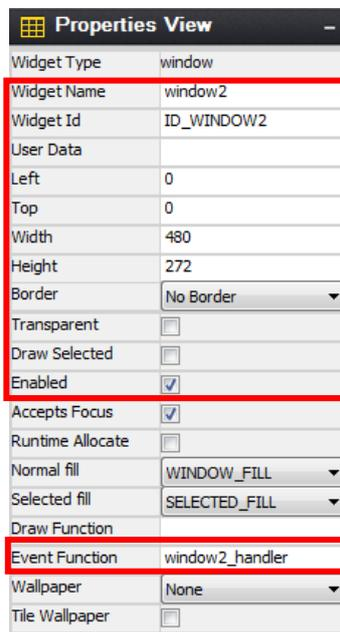

Figure 77 Configure Window2 Properties
- Modify the properties to match Figure 77.